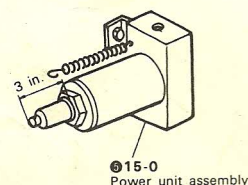

Fig. 2
- 4 When setting the new power unit assembly, extend the Piston rod by approx. 3 inches. (Fig.2)